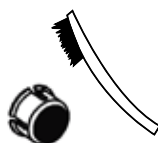

Figure 20: Clean spark arrestor with wire brush
5. If screen is not torn then clean using a wire brush, commercial solvent, or compressed air. Remove any dirt and debris that may have collected on the spark arrestor screen (see Figure 20).